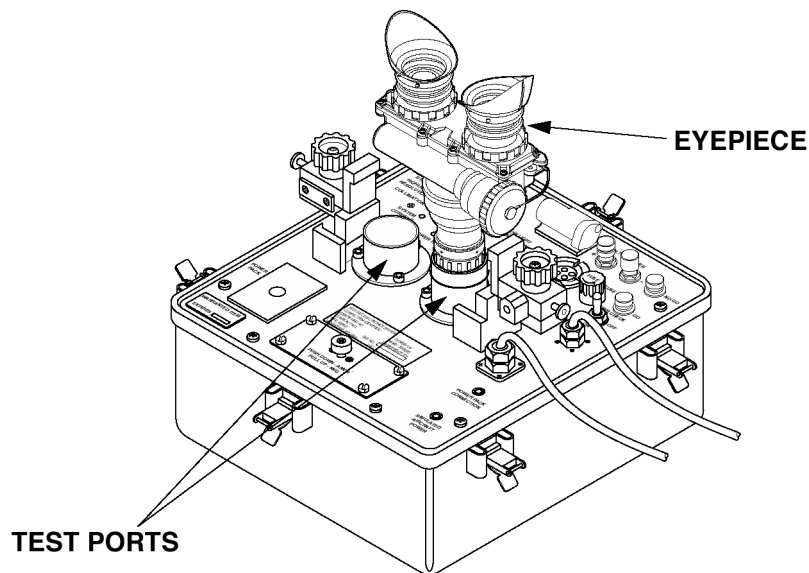

Figure 3-2. Inserting the Goggles into the Test Set.
- (6) Attach the goggles to the test set by inserting the objective lens into the adapter (Figure 3-2).